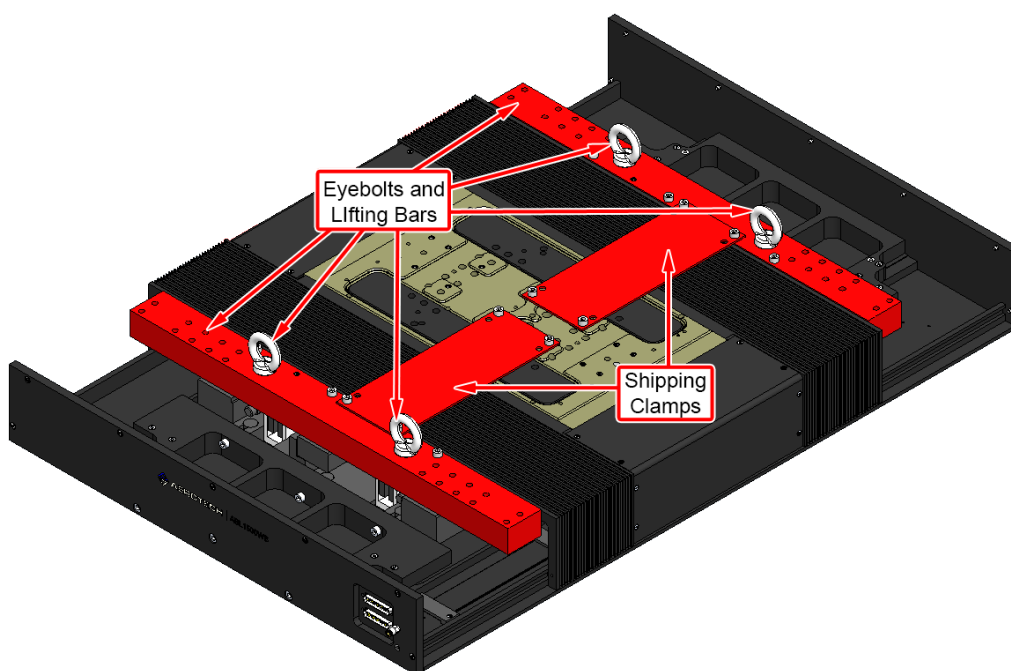

Figure 2-1: Lifting Features and Shipping Clamps
ABL1500WB-B stages come equipped with lifting bars and eyebolts attached to the stage as shown in Figure 2-1. The bellows are detached from the end-plates to allow access to these features. For multi-axis assemblies, always lift the system by the lower axis. Lifting by the upper axis may disturb precision alignments on the system.
4. Remove the lifting equipment and shipping clamps (Figure 2-1). Save the brackets for future use.